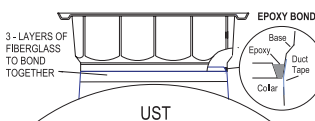

FIGURE 4
H. If using a fiber glass kit, apply fiberglass matting one layer at a time around entire perimeter of sump following it's labeled instructions until you have (3) layers completed. Wait until it hardens, then top coat with catalyzed gelcoat to complete process. Refer to FIGURE 4.